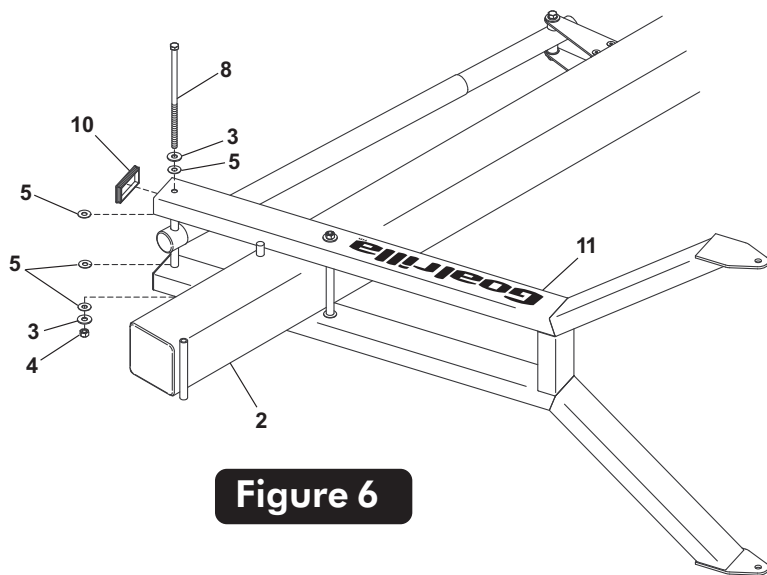

Figure 6
6. Secure Actuator Assembly to Lower Arm (#11) using one bolt (#8), two flat washers (#3), four plastic washers (#5) and one hex nut (#4). See **Figure 6**. Tighten both bolts (#8) securing Lower Arm (#11).